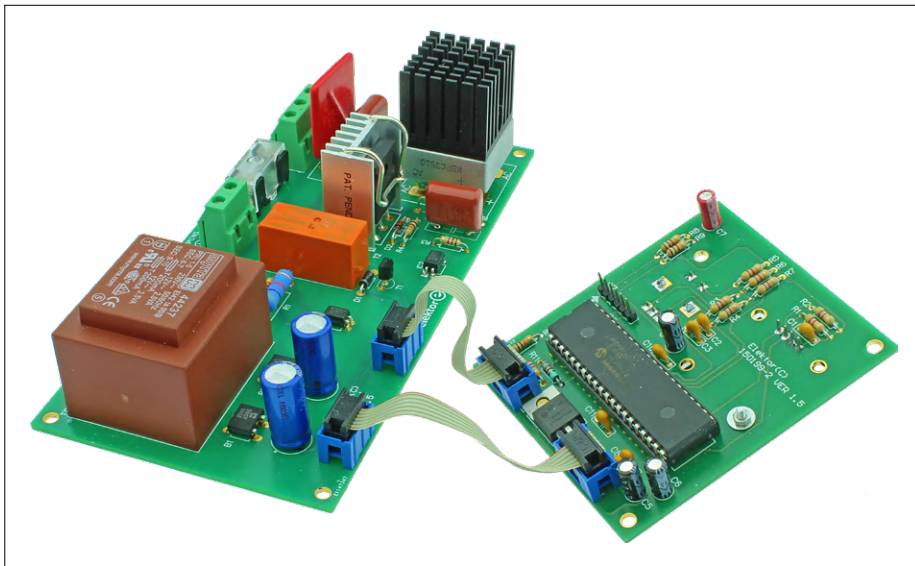

Figure 6: The MCU board and the power electronics board connected with two 6-way flatcables.
- Interconnect the boards with the two 6-way IDC terminated flatcables (**Figure 6**).